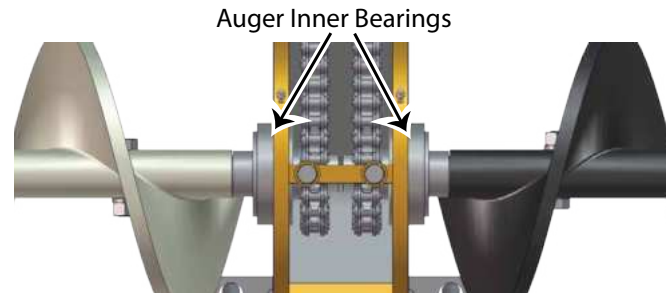

Figure 5-35. Auger Inner Bearings
11. Check inner auger bearings and replace if faulty. **(Figure 5-35)**